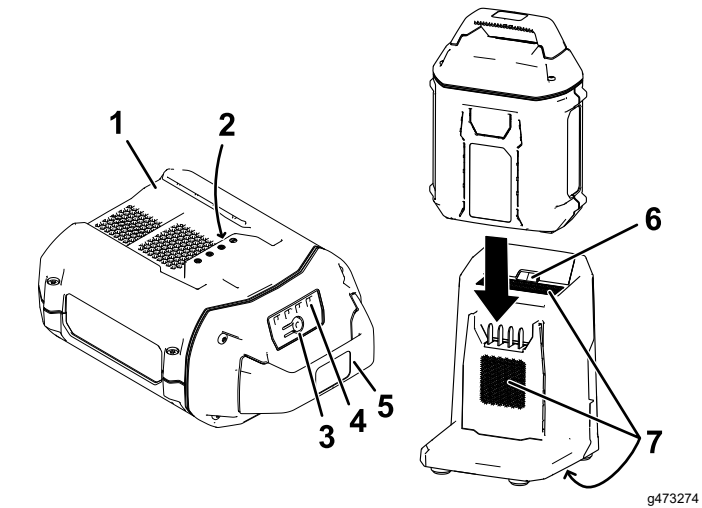

Figure 14
2. Line up the cavity in the battery pack (Figure 14) with the tongue on the charger.
3. Slide the battery pack into the charger until it is fully seated (Figure 14).